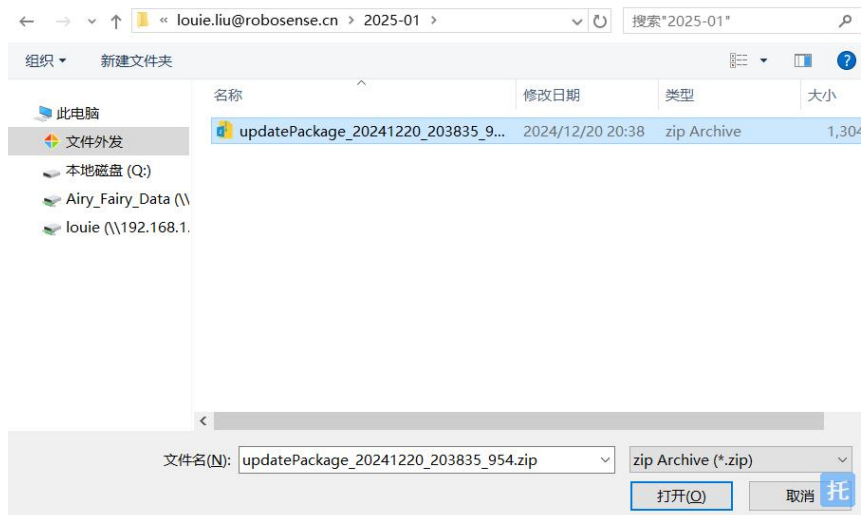

Figure 21 Select the file in the path where the upgrade package is stored
- (2) Select the folder corresponding to the firmware to be upgraded, select the firmware to be upgraded, and click "Open" (no Chinese characters appear in the path), as shown in Figure 21;